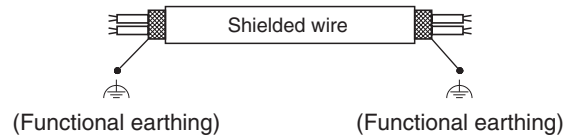

Fig. 4-6
(5) Use shielded wires for inter-unit control wiring (c) and ground the shield on both sides, otherwise misoperation from noise may occur. (Fig. 4-6)